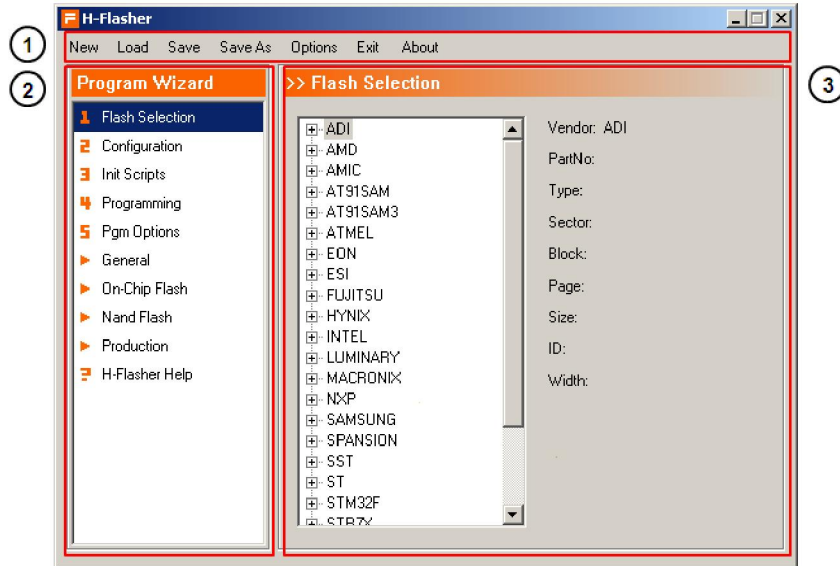

Fig 2-18 Main Window of H-Flasher
The main window of H-Flasher looks like Fig 2-18. In the figure, (1) is the menu bar, (2) is the program wizard and (3) is the configuration window. In the wizard, user can go to different steps. According to the selection on the wizard, the configuration window has different displays. For detailed information, please refer to Chapter 5.